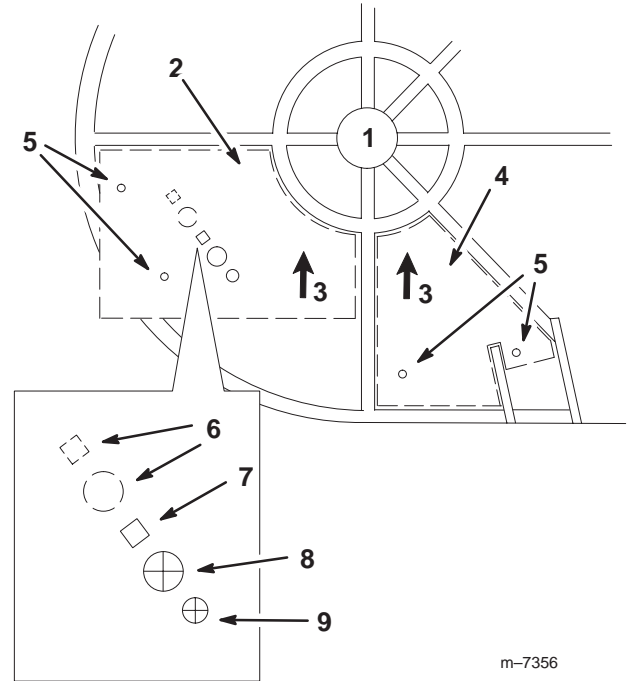

Figure 6
2. Line up and tape Templates 1 and 2 in place on the top of the left side of the mower deck as shown in Figure 6.
4. Drill the holes as marked by the templates (Fig. 6).